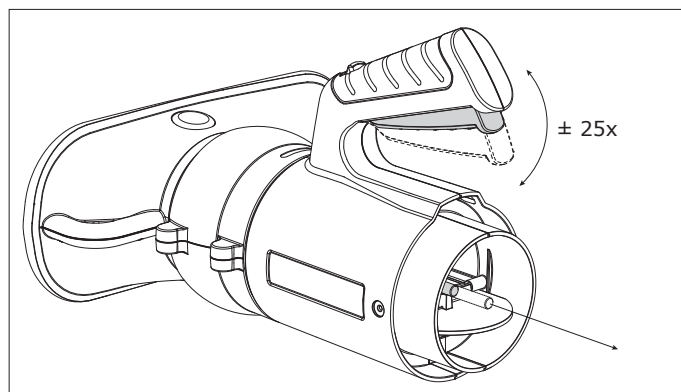

Fig. 4.1 Removing the pull rod
- Remove the pull rod from the Grabber by continuously operating the handle (ca. 25 times). Refer to fig. 4.1.